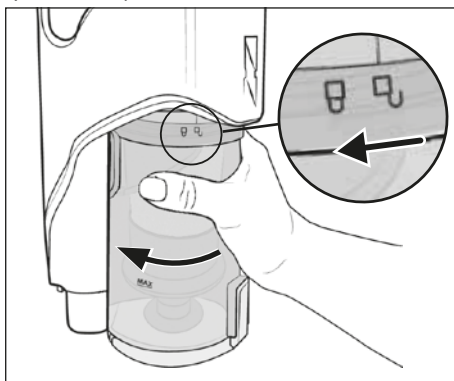

Fig. 16
- 1) To remove the dust container **7** from the appliance, turn it towards the symbol  (open) until it can be detached from the appliance (see Fig. 16).